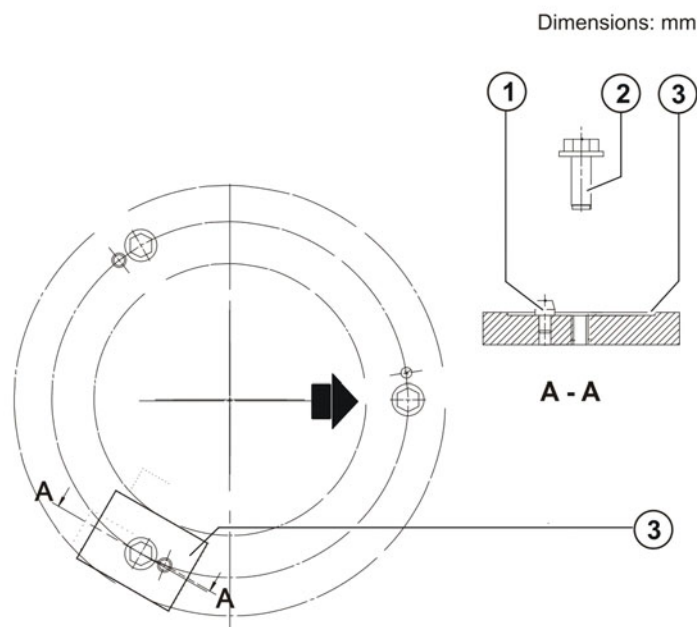

Fig. 8-3: Machine frame mounting
1. Clean the mounting surface (>>> Fig. 8-3) of the robot.